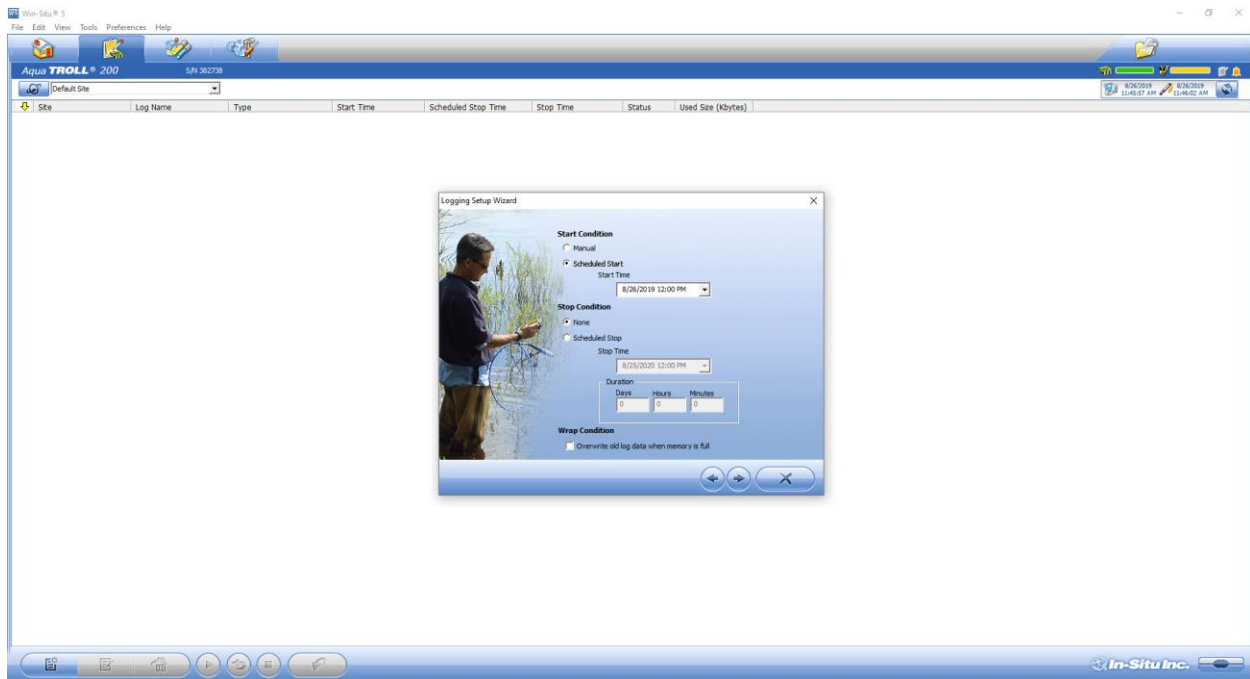

Figure 17. Schedule Start Condition to Start at an Even 5 Minute Interval to Align Timestamps
9. Select **Scheduled Start** for the **Start Condition** (Figure 17). *The **Start Time** must start on an even five (5) minute interval to align timestamps.* Leave “None” for the **Stop Condition**. Leave the **Wrap Condition** blank. Click the “X” to continue.